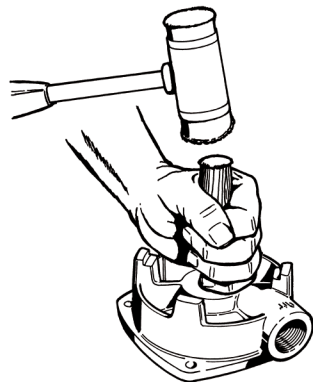

Figure 5-1
2. Remove the four (4) M6-1 X 80mm bolts (#19) from the cover (#2).
8. To remove the seat (#125). Refer to Figure 5-1. Place the motor bracket face down on a clean flat surface. Look into the opening in the center of the motor bracket, and you will see a portion of the seat. Insert the 11/16" dowel and, very gently, tap the seat until it drops out. Care must be taken with the seat. It is often a brittle material and is prone to breakage. **It is recommended that a new replacement seat be installed**